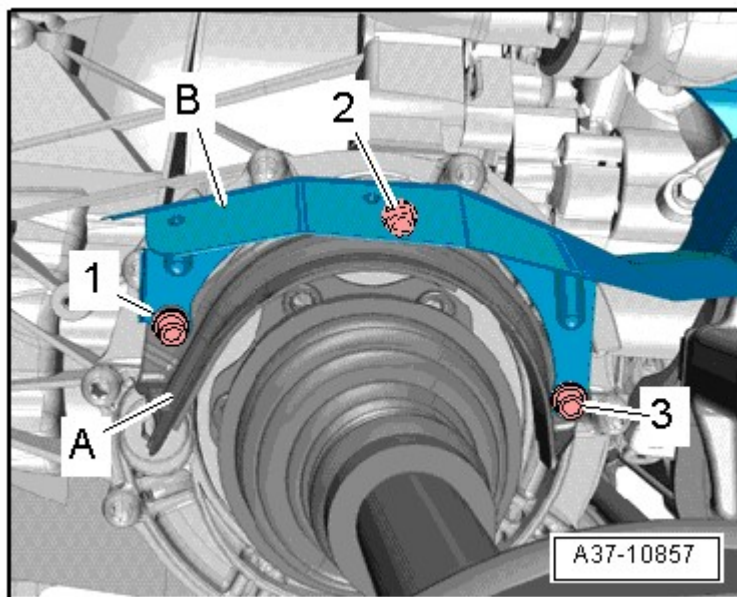

Fig. 100: Identifying Heat Shield
- Install the drive axle heat shield, refer to **Fig. 100**.